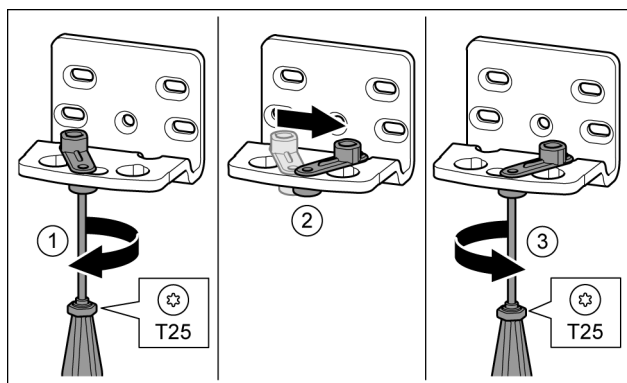

Fig. 30 \*
- ▶ Loosen the screw using a T25 screwdriver. *Fig. 30 (1) \**
- ▶ Lift the door closure aid and turn it 90° to the right in the hole. *Fig. 30 (2) \**
- ▶ Tighten the screw using a T25 screwdriver. *Fig. 30 (3) \**